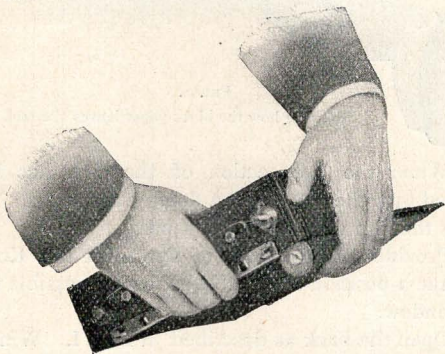

FIG. 3.—Dropping the Spool.
4. Turn the camera, and allow the spool to drop out (Fig. 3).